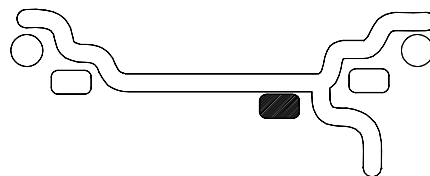

Figure 16
**B. STATIC** (single plane - Figure 16). Suggested for narrow rims (3" or less). Use a single corrective weight placed in the center of rim as illustrated in Figure 16.